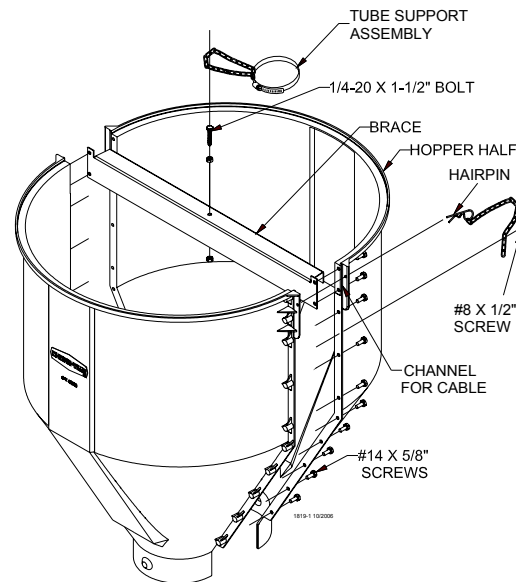

Figure 14.
1. Assemble the 1/4-20 x 1-1/2" bolt to the brace with two 1/4-20 nuts. One nut should be assembled under the brace with the other on top. This bolt is to provide a place for the tube support assembly chain to be hooked, see **figure 14**.
2. Assemble the 150 lb. hopper halves and brace as shown in **Figure 14**, using #14 x 5/8" screws (supplied in hardware package).
3. Assemble the #8 x 1/2" screws and chain as shown in **Figure 14**.